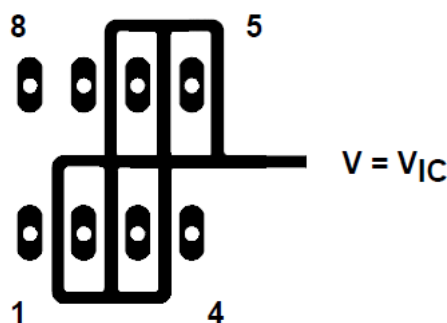
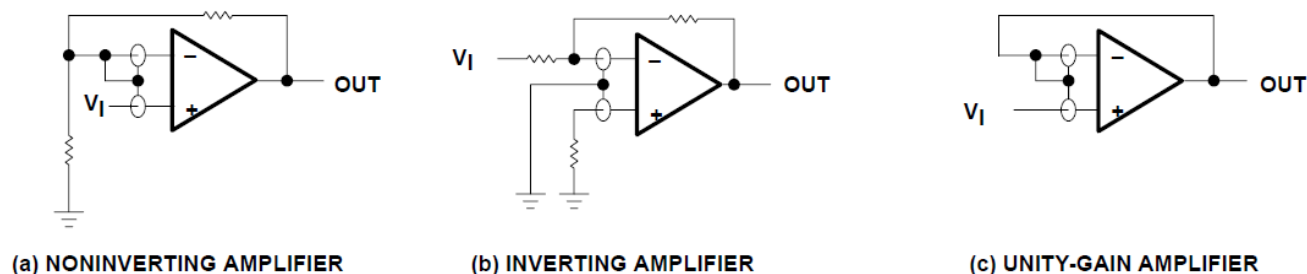

Figure 5-4. Isolation Metal Around Device Inputs (JG and P packages)
Figure 6-4. Guard-Ring Schemes
1. Isolate the device from other potential leakage sources. Use a grounded shield around and between the device inputs (see Figure 5-4). Leakages that otherwise flow to the inputs are shunted away.
Because of the extremely high input impedance and resulting low bias current requirements, the TLC272 and TLC277 are well suited for low-level signal processing; however, leakage currents on printed-circuit boards and sockets can easily exceed bias current requirements and cause a degradation in device performance. Including guard rings around inputs (similar to those of Figure 5-4 in the Section 5 section) is good practice. These guards must be driven from a low-impedance source at the same voltage level as the common-mode input (see Figure 6-4).